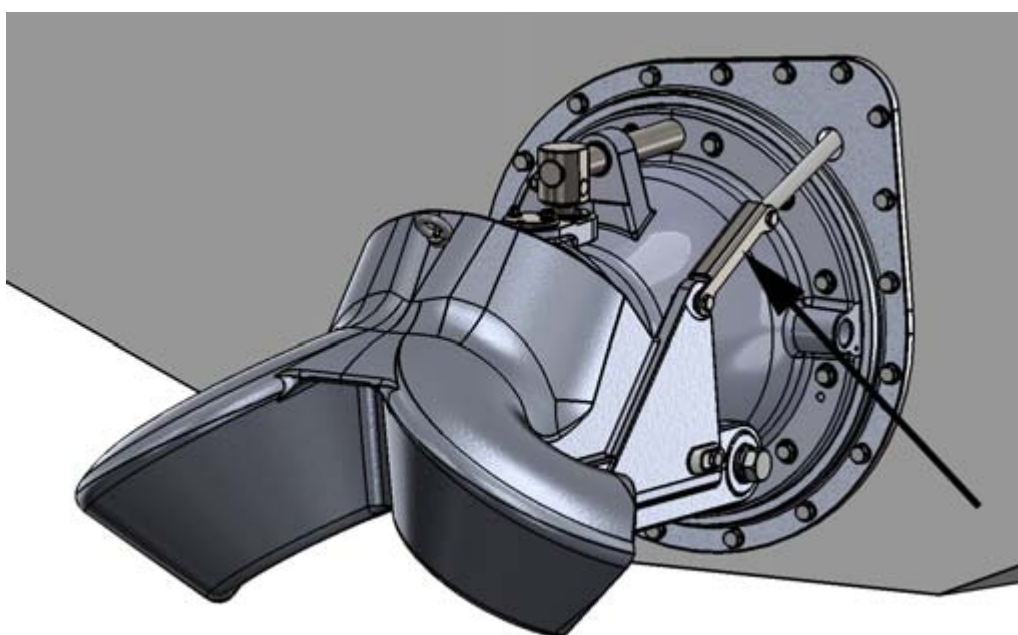

Figure 21. The rod between the hydraulic cylinder and the reversing deflector
7. Once you have installed the reversing deflector, install the rod between the cylinder and the deflector (figure 21).